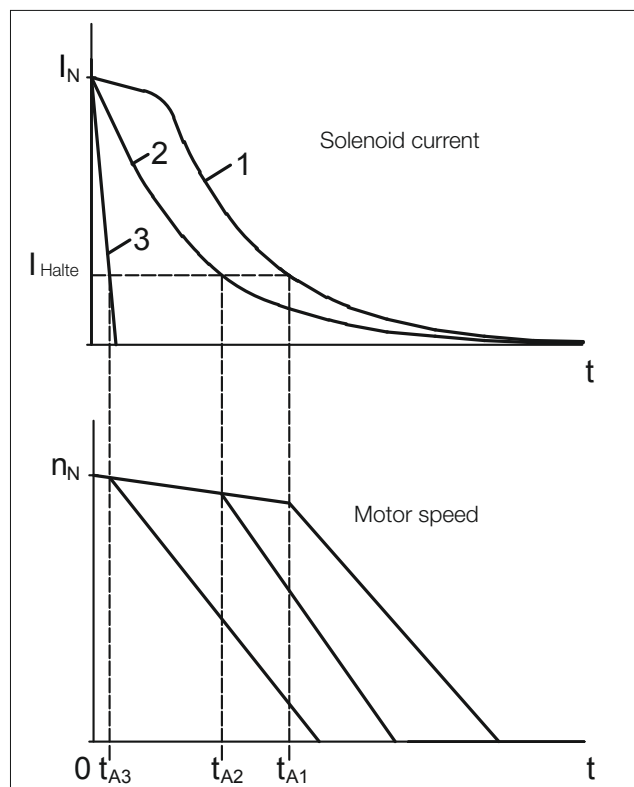

Figure 4: Idealised coil current and motor speed curves after switching off power on the AC side (1 and 2) or DC side (3)
- a) Rectifier powered from the motor terminal board (Figure 4, curve 1)
- b) Rectifier powered separately (Figure 4, curve 2)
### Interrupting the DC circuit of the electromagnet coil (Figure 4, curve 3)